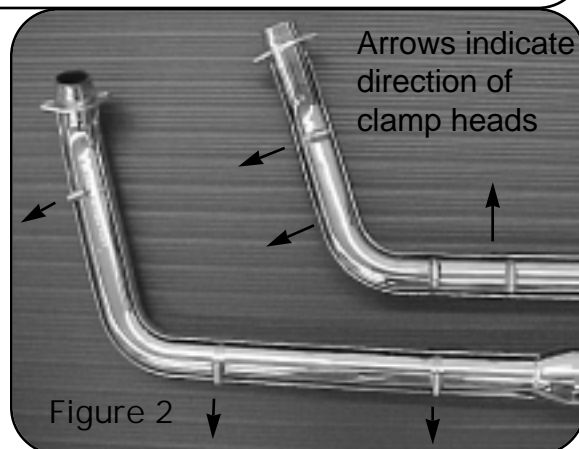

Figure 2
3. Mark outside surface of front and rear heat shields with location of mounting clips that are welded to the inside. Place each heat shield on a non-abrasive surface such as a blanket or carpet position each head pipe/muffler over its respective heat shield. Refer to figure 2.
4. Feed tail end of each hose clamp through each mounting clip welded to back side of front and rear heat shields. Take note of clamp hex screw head direction. (Clamp head direction is critical for adjustment when system is installed on bike) Wrap each clamp around back side of head pipe starting tail end into clamp head. Refer to figure 2 & 3.